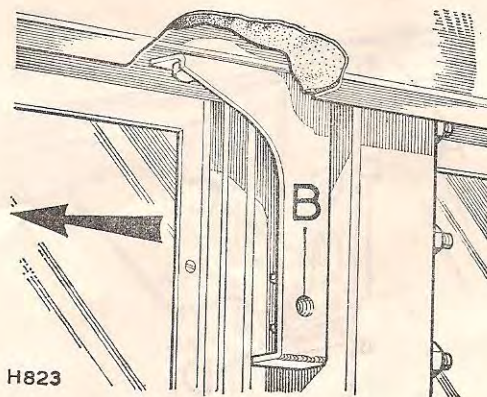

Fig. 15.
10. Secure the shoulder bracket R.H. or L.H. as required to the top corner of B.C. post, with the bracket web facing inboard, using bolt ($\frac{5}{16}$ in. UNF x 1 in. long), spring washer and nut ($\frac{5}{16}$ in. UNF) as shown in Fig. 15.